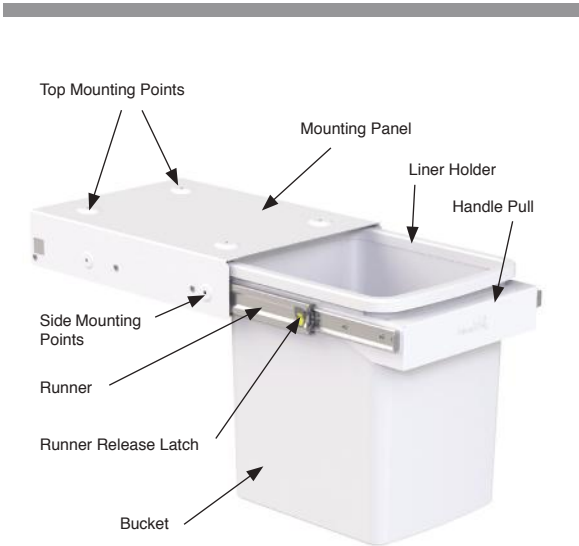

FIG 1 - Bin Parts
- Press the yellow runner release latches on both sides. Refer to FIG 1.